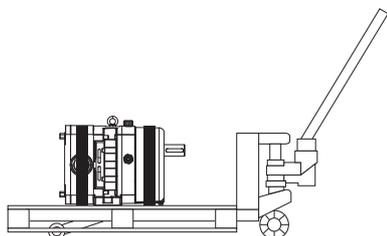

Fig. 39 Moving with pallet truck
- ▶ Ensure that the pump is adequately secured to the pallet, for example, with straps; see Fig. 39, "Moving with pallet truck," page 34.